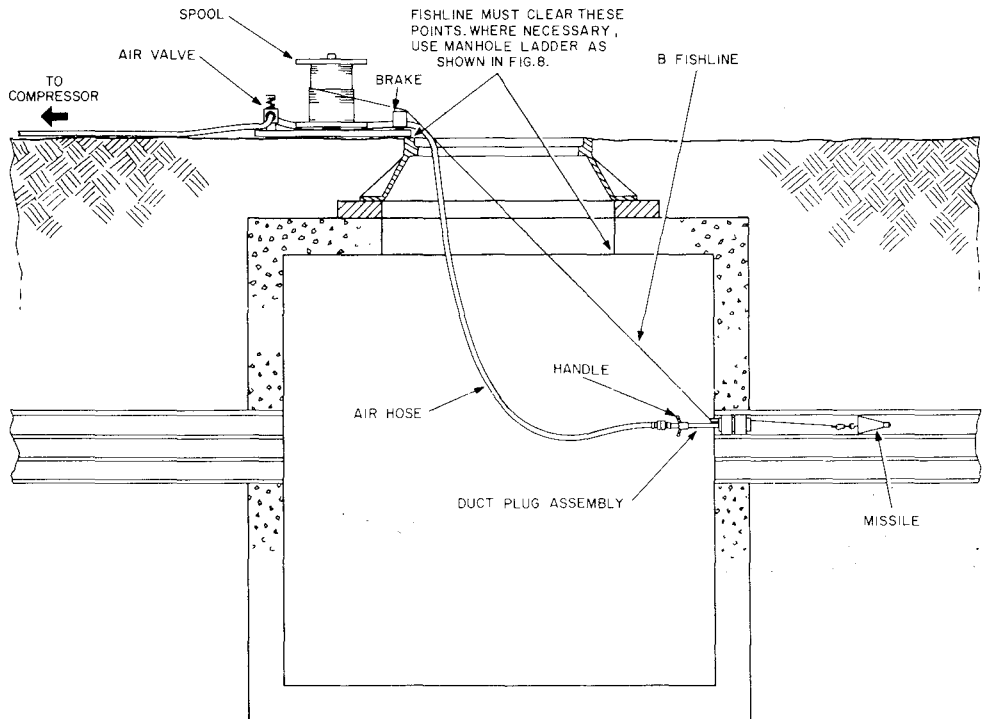

Fig. 7—Duct Plug Assembly in Duct—Using Spool
4.05 Place the missile and duct plug assembly in the duct (Fig. 7). Tighten the duct plugs